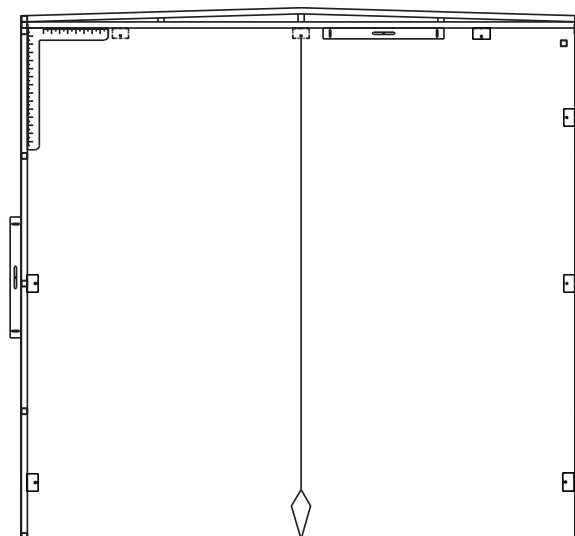

FIG 16
- Drill holes through remaining Mounting Brackets (Figure 16).